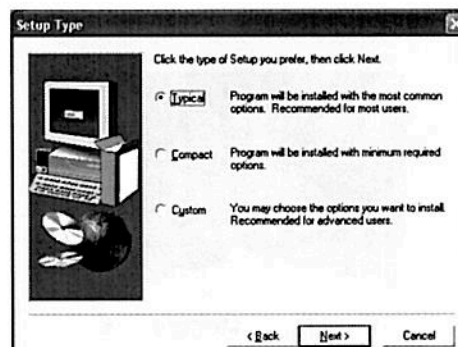

Fig. 2-4
6. Select setup type (Fig. 2-4). Click **Next**.